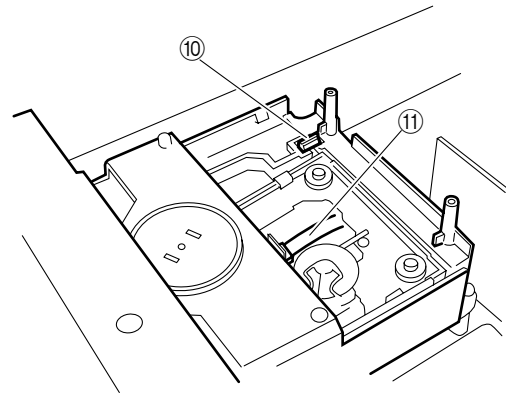

Fig. 5
- While pushing the claw (10) to the left, release the pin on the left side of the Pick-up Mechanism Unit from the CD mechanism chassis. (Fig. 5)
- Disconnect the flexible flat cable (11) connected to the pick-up mechanism unit.
- Disconnect the flexible flat cable (11) connected to the pick-up mechanism unit. (Fig. 5)